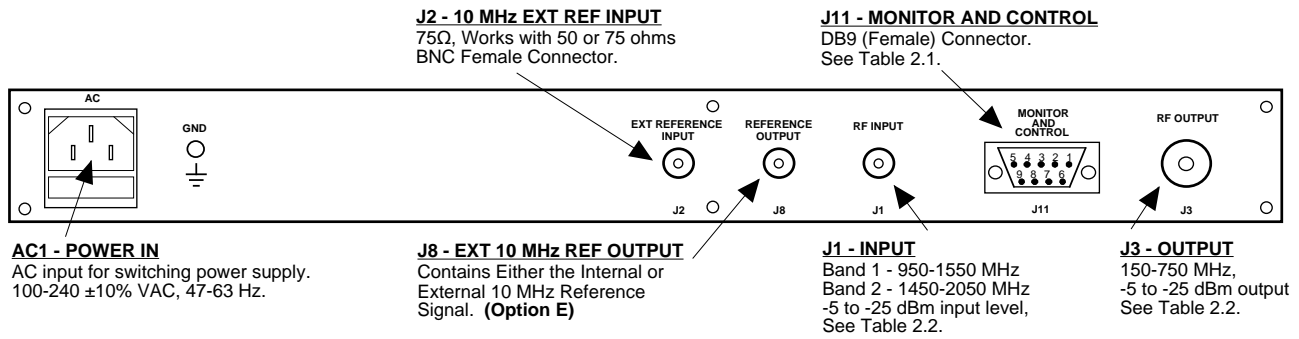

FIGURE 2.1 2083-218# Rear Panel I/O's
Figure 2.1 shows the input and output connectors on the rear panel.
1. Connect a -5 dBm to -25 dBm signal to RF IN, J1 (Figure 2.1)